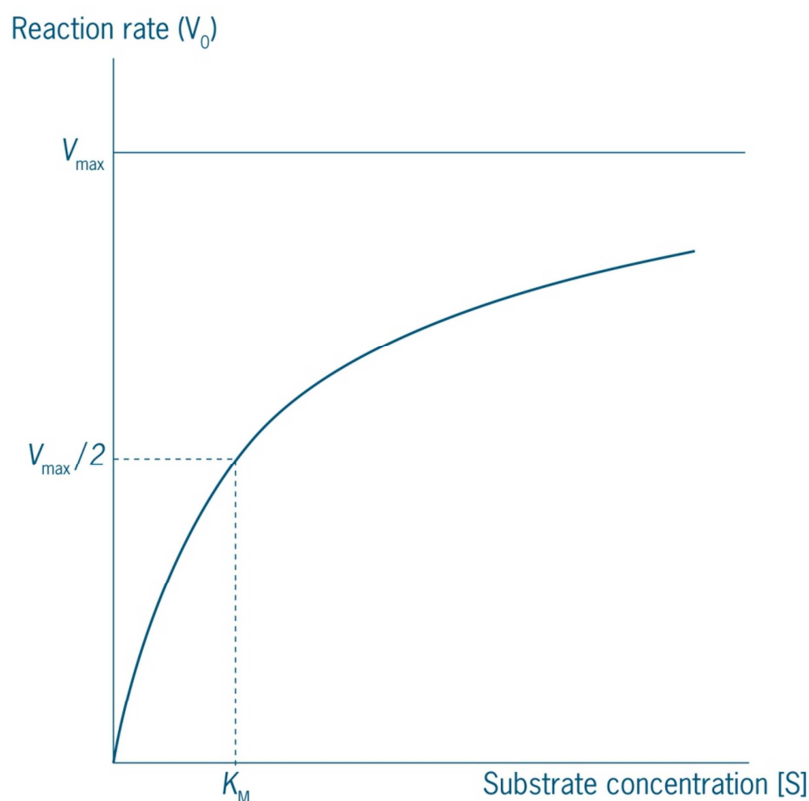

Figure 20: Enzyme kinetics according to Michaelis and Menten.
product(s). Like all other catalysts enzymes do not change the position of equilibrium, they only increase the rate at which the equilibrium is achieved. Yet enzyme kinetics has its own character, in that the mechanism of the catalysis is different and more complex than that of most conventional chemical catalysts. Enzyme catalysis is characterised by a phenomenon called substrate saturation. If we express the enzyme-catalysed reaction rate V as a function of the substrate concentration $[S]$, then in the simplest case we obtain Figure 20 below, the so-called Michaelis-Menten curve.
This means that when you have a solution in a flask with a relatively high substrate concentration and you add enzyme, the enzyme essentially works initially at rate V_{\max} . However, the more substrate is converted, the smaller V becomes. In Figure 20 we can look at the asymptotic curve from right to left (check this for yourself).
On closer inspection of the MM equation, we see that K_M units must be equal to those of the substrate concentration $[S]$, thus kg m^{-3} or mol m^{-3} , if we use the recommended SI units. If the substrate concentration $[S]$ is equal to K_M and we substitute this in equation (4), then it transpires that $V = \frac{1}{2} V_{\max}$! That means that K_M has a numerical value equal to the substrate concentration, whereby the conversion rate is equal to $\frac{1}{2} V_{\max}$ (see figure 20).